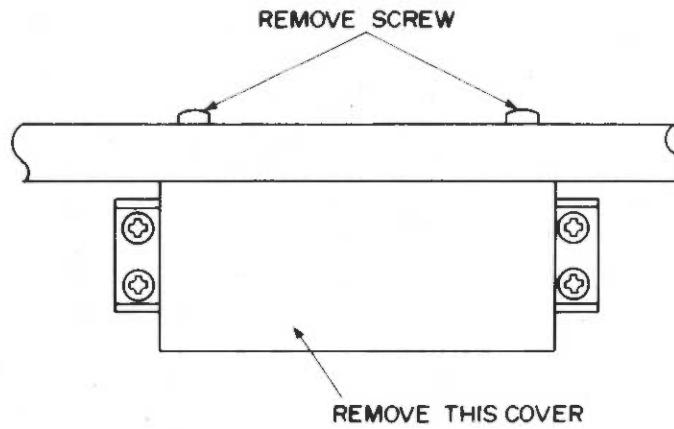

Figure 1. Remove the Terminal Cover
- (1) Remove the top cover.
- (2) Remove the Transformer Wire Connection Terminal Cover, loosen two Cover mounting screws on the rear panel, see Fig. 1.